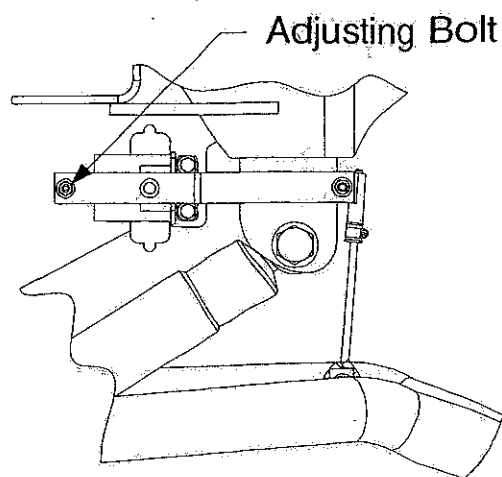

Figure 15 – Height Control Valve Adjustment.
3. Loosen adjusting bolt (See Figure 15) on actuation arm.